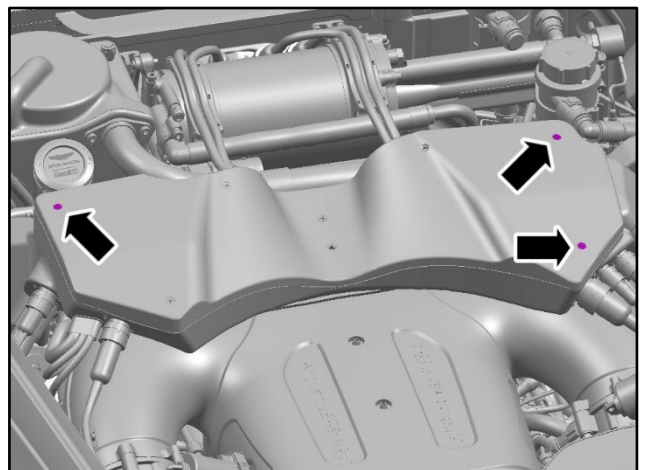

Figure 17
17. Install the three 22.2 mm screws (refer to Figure 17).